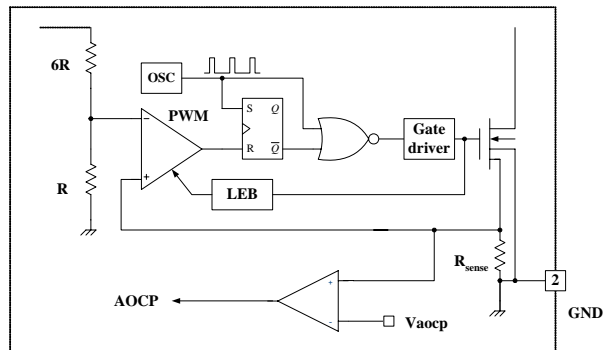

Figure 9. Abnormal Over-Current Protection
4.2 Abnormal Over-Current Protection (AOCP): When the secondary rectifier diodes or the transformer pins are shorted, a steep current with extremely high di/dt can flow through the SenseFET during the LEB time. Even though the FSQ-series has OLP (Overload Protection), it is not enough to protect the FSQ-series in this abnormal case, since severe current stress is imposed on the SenseFET until OLP triggers. The FSQ-series has an internal AOCP circuit, as shown in Figure 9. When the gate turn-on signal is applied to the power SenseFET, the AOCP block is enabled and monitors the current through the sensing resistor. The voltage across the resistor is compared with a preset AOCP level. If the sensing resistor voltage is greater than the AOCP level, the set signal is applied to the latch, resulting in the shutdown of the SMPS.